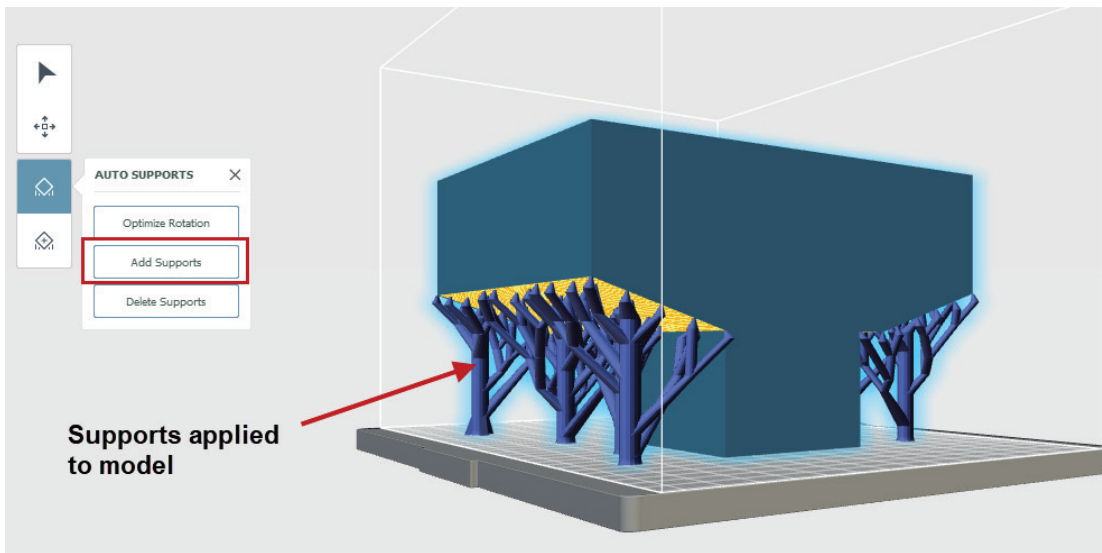

Figure-55. Applying supports to model
The **Supports** tools are used for giving support to model which do not have flat base. To apply supports, click on the **Supports** tool from the top toolbar. The **AUTO SUPPORTS** toolbox will be displayed in the left of screen; refer to Figure-55.
- Click on the **Add Supports** tool from the **AUTO SUPPORTS** toolbox to automatically apply supports to the model which is not stable during 3D printing; refer to Figure-55.